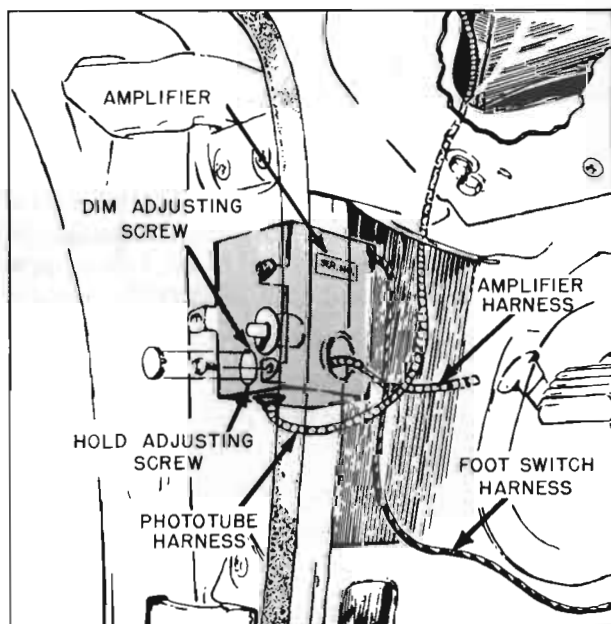
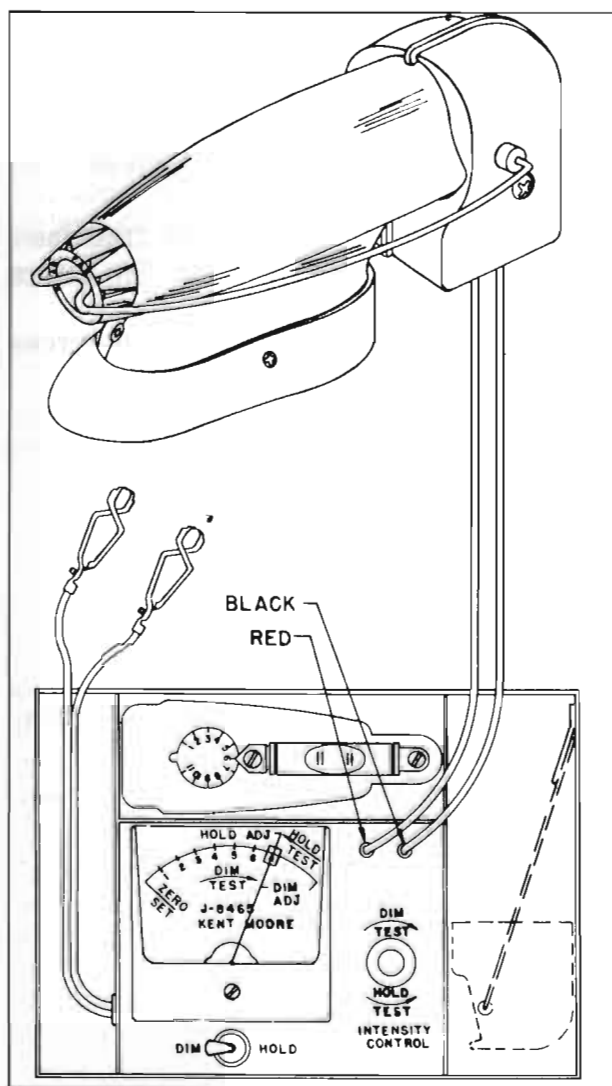

Figure 10-57—Amplifier and Wiring
Figure 10-58—Tester J-8465
(a) Remove the left front kick pad and disconnect the phototube unit harness from the bottom of the amplifier. See Figure 10-57.
(b) Remove left front kick pad. Disconnect phototube and amplifier harness. See Figure 10-57.
A new Tester J-8465, made by Kent-Moore, is required for installing, checking or adjusting the Guide-Matic. The tester includes a vertical aiming device No. 6 and a sensitivity test lamp. See Figure 10-58.
(d) Set Aiming Device No. 6 on top of phototube unit as shown in Figure 10-58.
- (1) Set driver control to detent position.
- (2) Install tester lamp. (Use Kent-Moore Model J-8465.) See Figure 10-58.
- (3) Start engine and operate at fast idle while making adjustments.
- (4) Turn headlamps on and wait at least 5 minutes for amplifier unit to stabilize. Place foot switch in automatic position.
- (5) Turn zero corrector on face of meter until meter pointer is on "ZERO SET" line. See Figure 10-58.
- (1) Rotate tester "INTENSITY CONTROL" completely counter-clockwise.
- (2) Turn "DIM-HOLD" switch to "HOLD" position and then back to "DIM" position. Headlamp should be on upper beam.
- (3) Turn tester "INTENSITY CONTROL" clockwise slowly just to point where headlamps switch to lower beam. The meter pointer should now read in the black "DIM ADJ." range on the meter scale. See Figure 10-58. If not, proceed to the hold and dim sensitivity adjustments.
- (1) Turn "INTENSITY CONTROL" all the way clockwise.
- (2) Turn "DIM-HOLD" switch to "DIM" position and back to "HOLD" position to obtain a lower beam.
- (3) Slowly turn "INTENSITY CONTROL" counter-clockwise just to the point where headlamps switch to upper beam. The meter pointer should now read in the green "HOLD ADJ." range on the meter scale. See Figure 10-58. If not, proceed to the hold and dim sensitivity adjustments.
(1) Hold and dim sensitivity controls are slotted for screwdriver adjustment and are located at the side of the amplifier unit. They are available for adjustment through the left front door post. See Figure 10-57.
(2) Rotate the amplifier hold control completely clockwise. See Figure 10-57.
(3) Rotate tester "INTENSITY CONTROL" all the way clockwise.
(4) Turn "DIM-HOLD" switch momentarily to "DIM" position to switch lights to lower beam, then switch back to "HOLD" position.
(5) Adjust "INTENSITY CONTROL" slowly counter-clockwise until meter pointer is on "HOLD ADJ." line. See Figure 10-58.
(6) Turn amplifier hold control slowly counter-clockwise just to the point where headlamps switch to upper beam. Do not go beyond this setting.
(7) Recheck sensitivity as shown in Steps (1) through (3) under *Hold Sensitivity Test*.
(8) Reinstall dust and moisture protective button plugs.
(1) Rotate amplifier dim control completely counter-clockwise. See Figure 10-57.
(2) Momentarily turn "DIM-HOLD" switch to "HOLD" then back to "DIM" position to obtain upper beam. See Figure 10-58.
(3) Adjust tester "INTENSITY CONTROL" until meter pointer is at "DIM ADJ." line. See Figure 10-58.
(4) Slowly rotate amplifier dim control clockwise just to point where headlamps switch to lower beam. Do not go beyond this setting.
(5) Recheck sensitivity as shown in Steps (1) through (3) under *Dim Sensitivity Test*. If sensitivity is not correct, repeat adjustment procedure.
(6) If adjustment is correct, turn off headlamps and disconnect Kent-Moore tester.
(7) Remove tester lamp from the phototube unit.